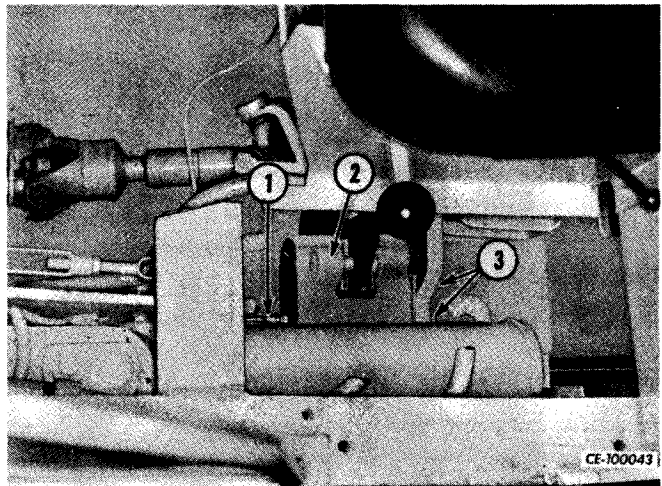

Figure 13-9
Disconnect and plug hydraulic brake line (1, Fig. 13-9). Remove cap screws (3) disconnecting brake caliper (2) from transfer case mounting bracket. Remove and tag shims for assembly.
Position brake caliper (2, Fig. 13-9) and shims on transfer case bracket and install and tighten cap screws (3). Refer to Section 4, "TRANSFER CASE" for information on installing brake caliper on the transfer case. Tighten cap screws (3) to recommended torque. Refer to "SPECIAL TORQUES," Service Information.
Connect hydraulic brake line (1, Fig. 13-9) to brake caliper. Bleed the brake system. Refer to "BLEED HYDRAULIC BRAKE CIRCUIT."